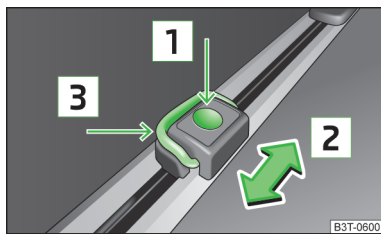

Fig. 117
- Press the button **1** » Fig. 117 and push the lashing eye in the desired position in the direction of the arrow **2**.
- Fold up the clamp **3** » Fig. 117 and, for example, attach the fixing net.